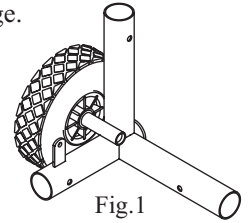

Fig.1
**2** You will need for this pack FEQ140. Position the back wheel assemblies as shown in Fig.1 & 2